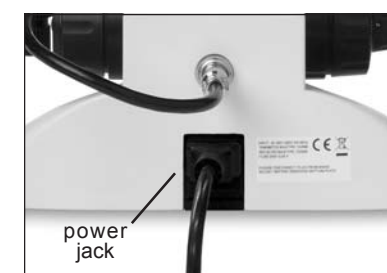

Figure 14
18. Connect the main power cord to the jack located at the rear of the microscope stand (figure 14) and plug the other end into a grounded power source.